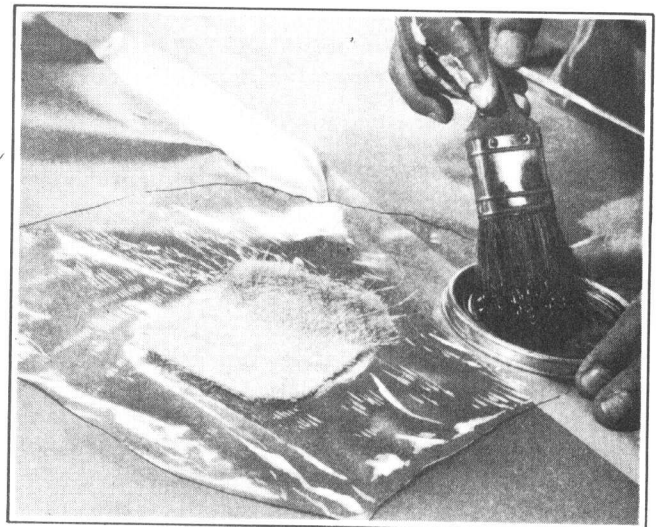

Figure 4-10. Applying Resin to Mat
6. Mix a small amount of pre-accelerated resin and catalyst and daub resin on mat to thoroughly wet the mat. This may be done on a piece of cellophane or wax paper. See Figure 4-10.